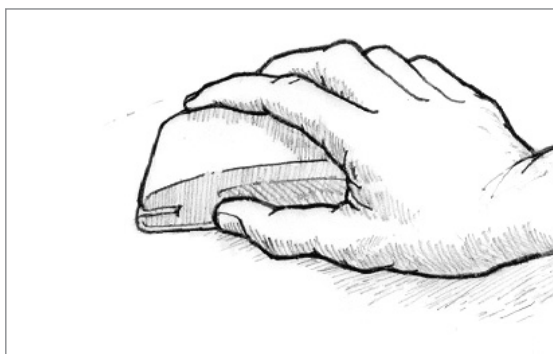

Figure 6-10 Sand the fairing material to blend with the surrounding contour.
6. Sand the fairing material to blend with the surrounding contour (*Figure 6-10*). Begin with 50-grit sandpaper if you have a lot of fairing material to remove. Use 80-grit paper on the appropriate sanding block when you are close to the final contour. **CAUTION!** Don't forget your dust mask. Remove the sanding dust and fill any remaining voids following the same procedure.